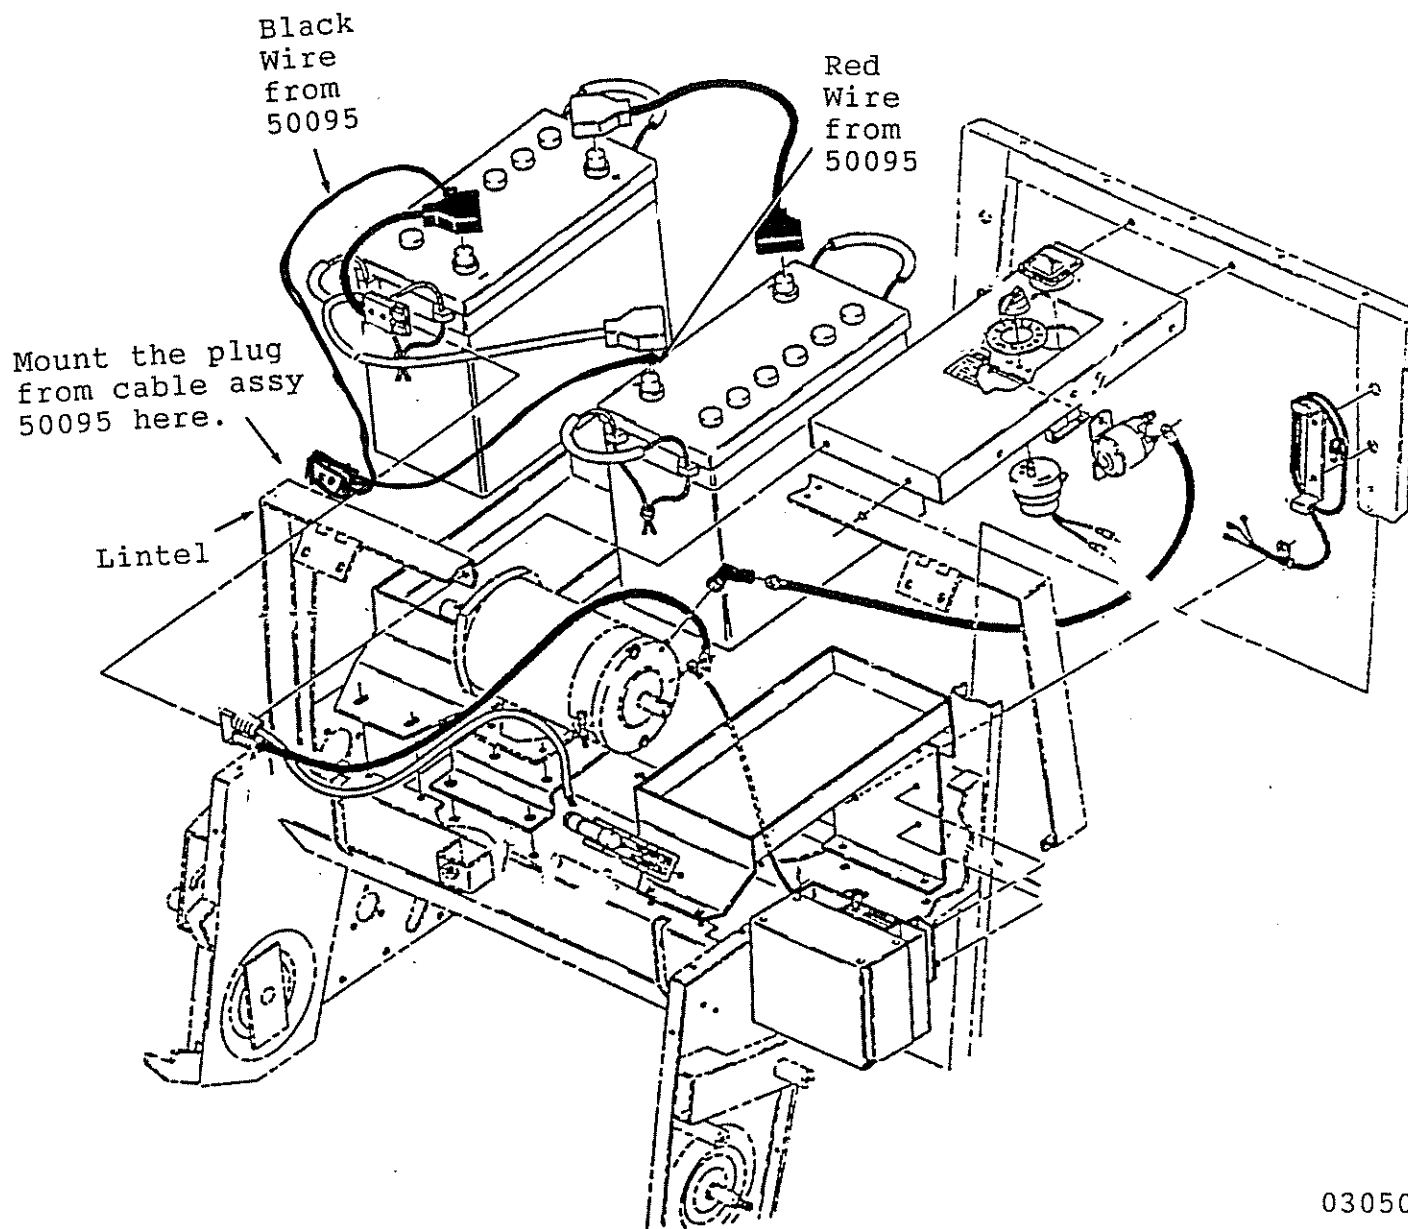
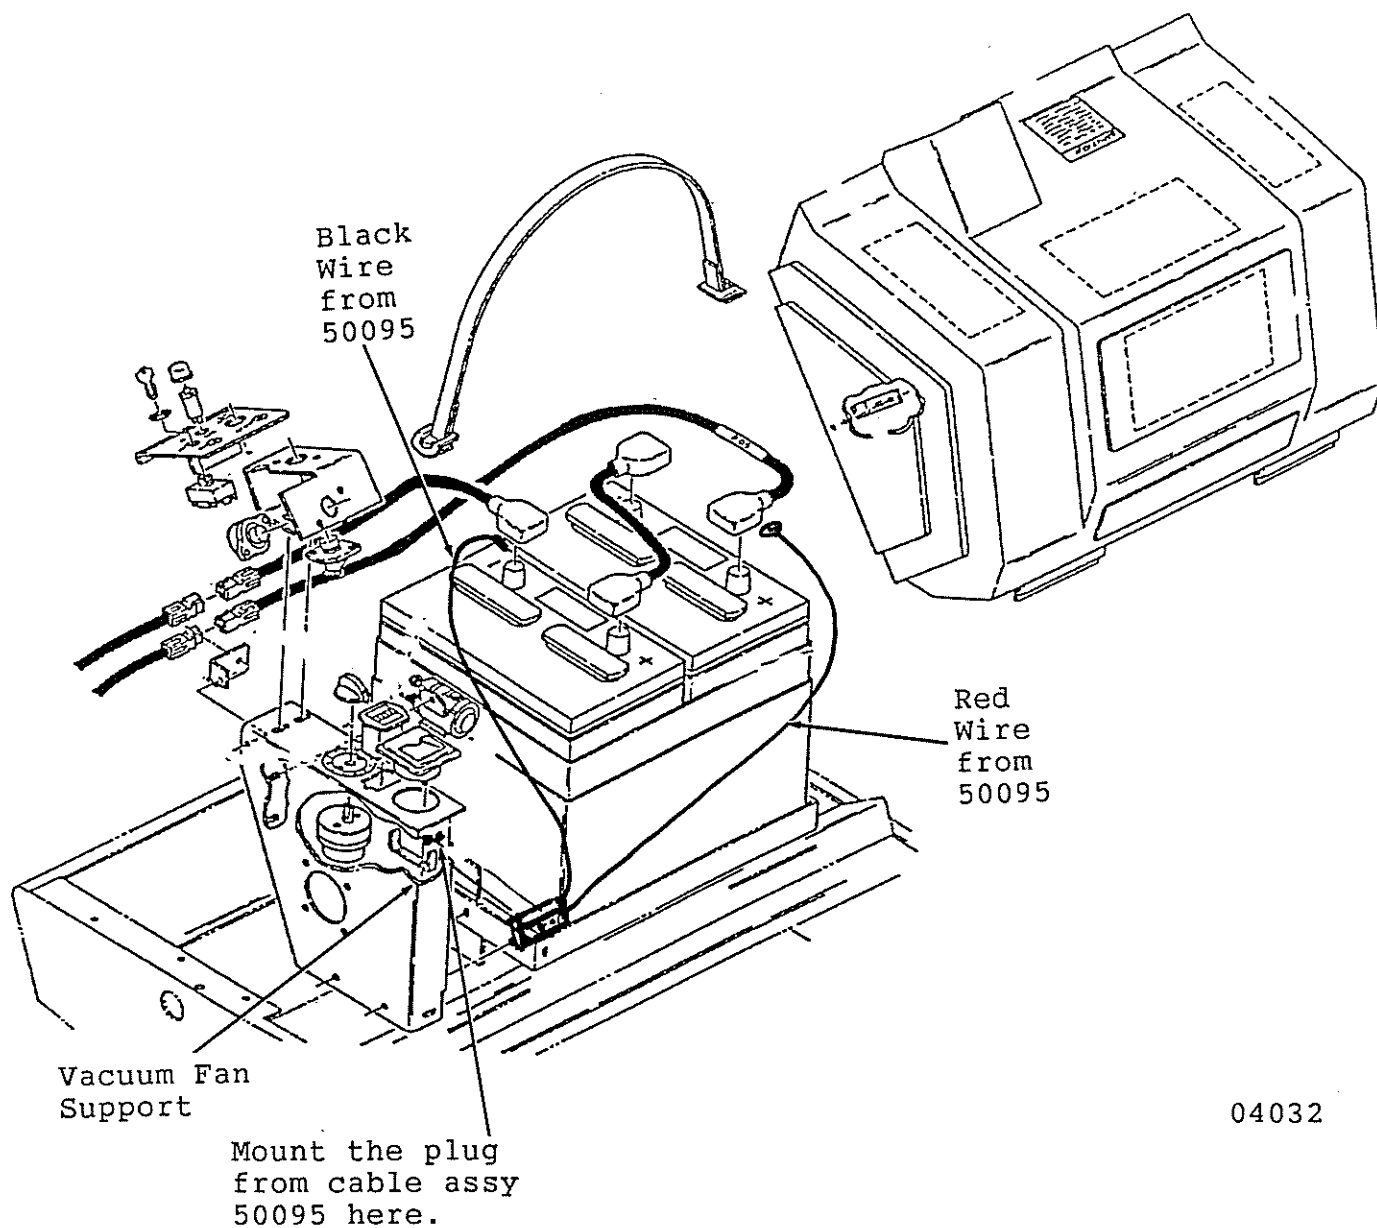

Fig. 3 - MODEL 186E
Fig. 4 - MODEL 140E
1. Attach the red wire of the cable assembly to the positive battery terminal and the black wire of the cable assembly to the negative battery terminal. See Fig. 3 for Model 186E and Fig. 4 for Model 140 E.
2. Bolt connector to machine in the previously drilled holes. See Fig. 3 for the Model 186 E and Fig. 4 for the Model 140 E.